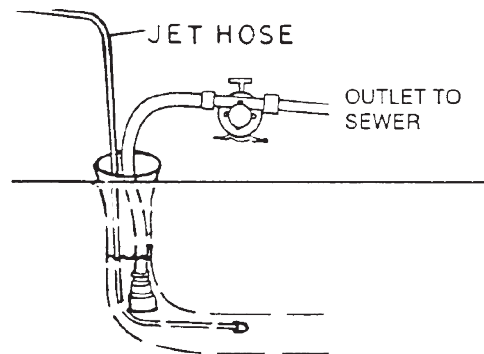

Fig. 9
15. In those rare instances where backflow is created, a bilge pump may be used. (See Fig. 9.)